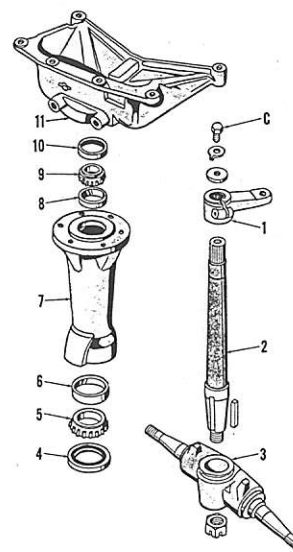

Fig. 6—Exploded view of dual wheel pedestal and associated parts.
To remove the lower spindle and wheels assembly, support tractor under engine and remove grille door and lower grille panel. Remove the cap screw (C—Fig. 6), tab washer and flat washer. Working through the opening provided in support casting (11), loosen the clamp bolt securing steering arm (1) to spindle (2), and